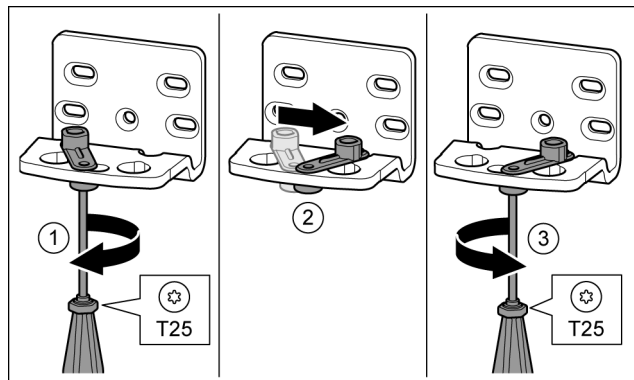

Fig. 16
- Loosen the screw using a T25 screwdriver. Fig. 16 (1)
- Lift the door closure aid and turn it 90° to the right in the hole. Fig. 16 (2)
- Tighten the screw using a T25 screwdriver. Fig. 16 (3)